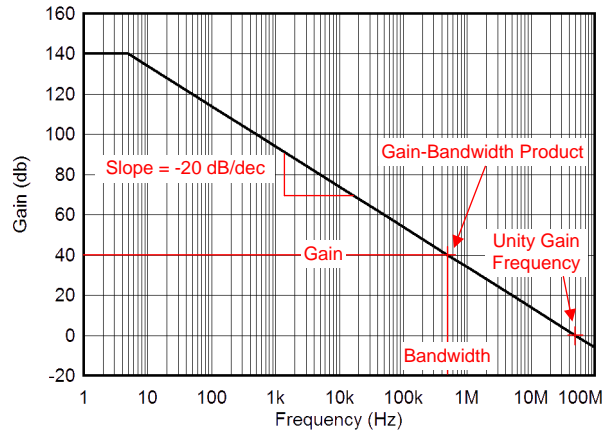

Figure 53. Gain-Bandwidth Product and Unity Gain Frequency
The parameters of an amplifier that best describes the small signal dynamic behaviour are the gain-bandwidth product (GBP), unity gain frequency (UGF) and phase margin (PM) of an amplifier. The GBP is a useful parameter to determine the bandwidth of an application in closed loop configurations. Equation 3 can be used to approximate the closed loop bandwidth for the OPA828. Typically the GBP is a specified parameter with the amplifier configured in a non-inverting gain of 100 (40 dB). The GBP of an amplifier is generally assumed to be constant over frequency but in some higher speed amplifiers this is not always the case. The OPA828 has a constant GBP all the way to its UGF, as such the OPA828 open-loop gain has a constant -20 dB/decade slope (-6 dB/octave). The UGF is defined as the frequency at which the gain of the amplifier crosses $1V/V$ (0 dB). Figure 53 illustrates the concept of GBP and UGF. The OPA828 has both a GBP and UGF of 45 MHz.